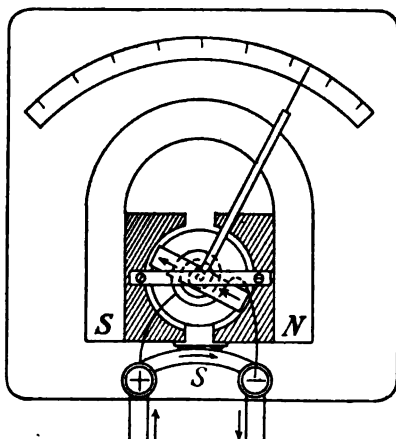

FIG. 248.—Diagram of a commercial ammeter. *S* is the shunt.
*nometer*. It contains, wound on a light form, a coil of fine copper wire. The form is mounted on jewel bearings between the poles of a strong permanent horseshoe magnet. (See Fig. 248.) As in other moving-coil galvanometers, a soft iron cylinder within the form concentrates the field of the magnet. The form and its coil is held in balance by two spiral springs which also conduct current into and out of the coil.
Only a small part of the whole current measured, in some cases only 0.0001 passes through the coil, the larger part of the current passing through a metal wire or strip called a *shunt*1 (see Fig. 248) connecting the binding posts of the instrument. A fixed fraction of the whole current flows through